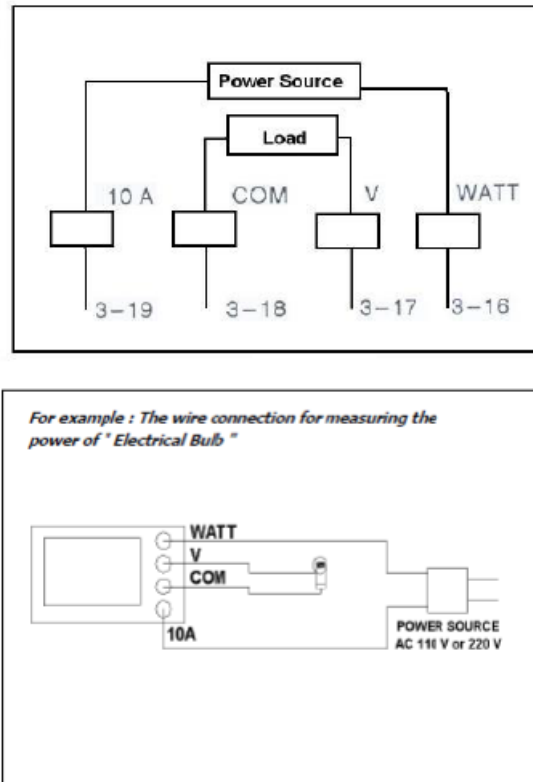

Fig. 2
Make the wire connection and connect the test leads into terminals (3-16, 3-17, 3-18, 3-19 – Fig. 2
6. * Connect the “LOAD” to the terminals of 3-17, 3-18, (Fig. 2)
- Connect the “Power Source” to the terminals of 3-16, 3-19 (Fig. 2)